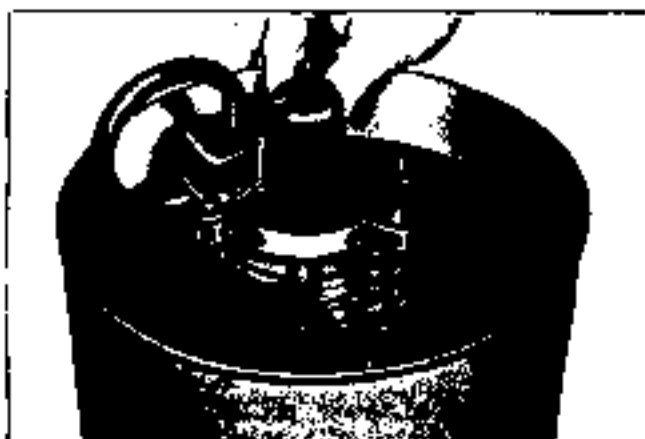

Fig. 4-26 Checking Compressor, Reservoir and Regulator for Leaks
3. Route an 8" piece of rubber hose between vacuum and vent ports (Fig. 4-26).